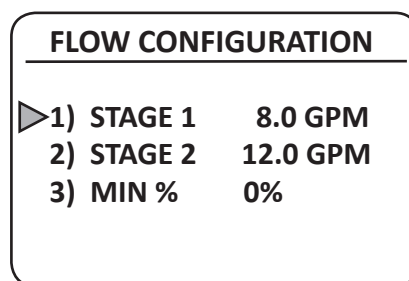

Figure 11: Flow Configuration
The Flow Configuration menu (Figure 11) is accessed by selecting 1) FLOW from the Setup Menu when item 4) is set to FLOW. Separate flow rates for Stage 1 and Stage 2 operation can be specified. The flow rate specified for STAGE 1 will be applied when the controller receives a 24 VAC signal at the left HP IN1 terminal, or when a dry contact is made across the two HP IN1 terminals. The flow rate specified for STAGE 2 will be applied when the controller receives a 24 VAC signal at the left HP IN2 terminal, or when a dry contact is made across the two HP IN2 terminals. Press the OK button to select Item 1) STAGE 1 or Item 2) STAGE 2 and the +/- buttons to set the values.